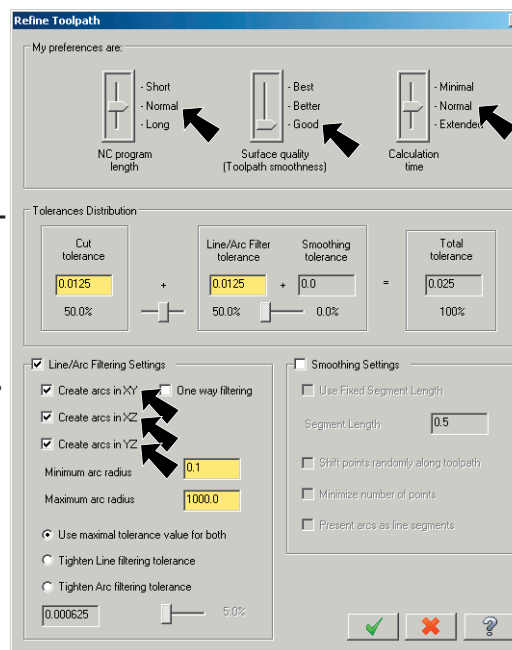

Fig. 91
Step 26. Set the 3 sliders to: Fig. 91
Step 27. Check to place check in all Create Arcs checkboxes, Fig. 91.